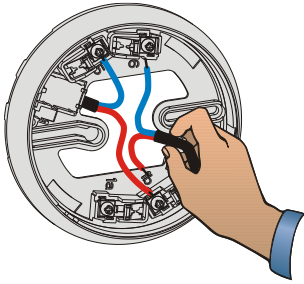
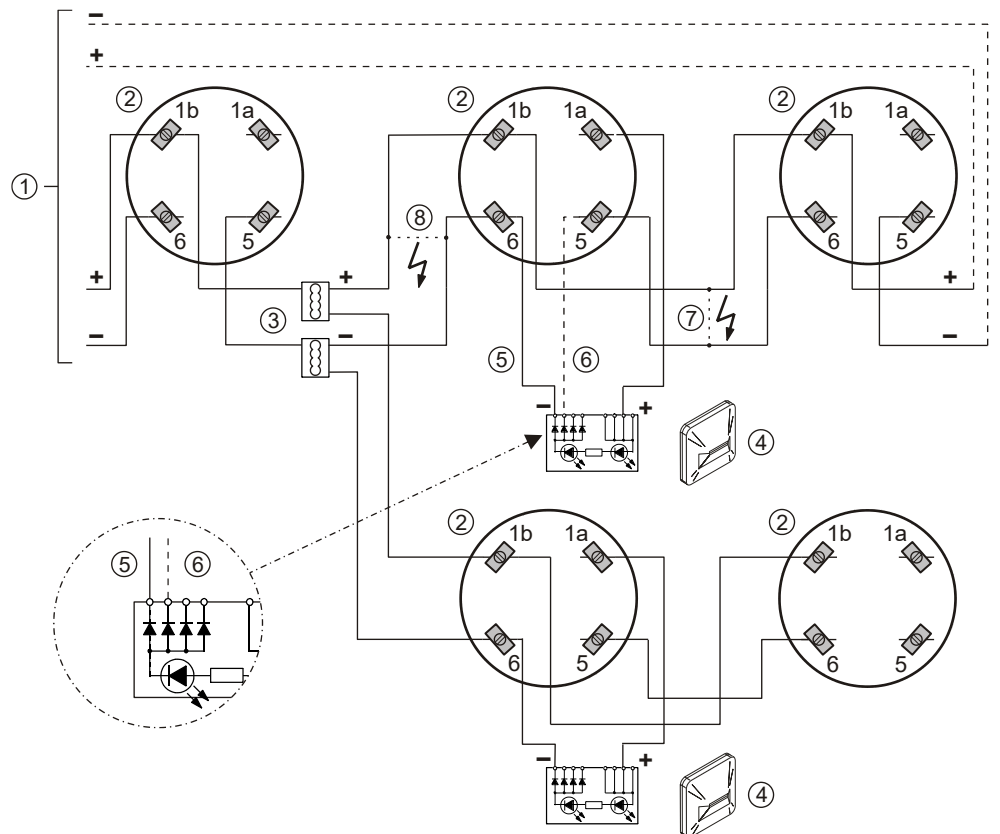

Fig. 1
Fig. 4
3. Connect the cable to the terminals according to Fig. 1 and Fig. 4.